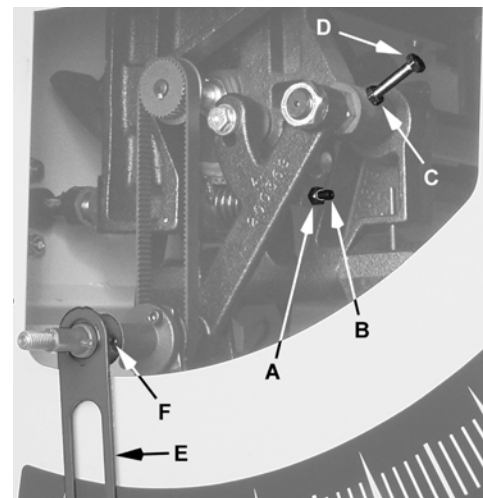

Figure 46
6. Referring to Figure 46, loosen the *lock nut* (A) and turn *set screw* (B) on the front trunnion *in* or *out*. The *set screw* should stop against the front trunnion bracket when the blade is 90° to the table.
9. Remove the front panel per Step 5. Loosen *lock nut* (C, Fig. 46) and turn *set screw* (D, Fig. 46) on the front trunnion *in* or *out*. The hex cap screw should stop against the table when the blade is 45° to the table.
10. Check the accuracy of the *pointer* (E, Fig. 46) on the angle scale and adjust, if necessary. Loosen set screw (F, Fig. 46) to change the pointer position.